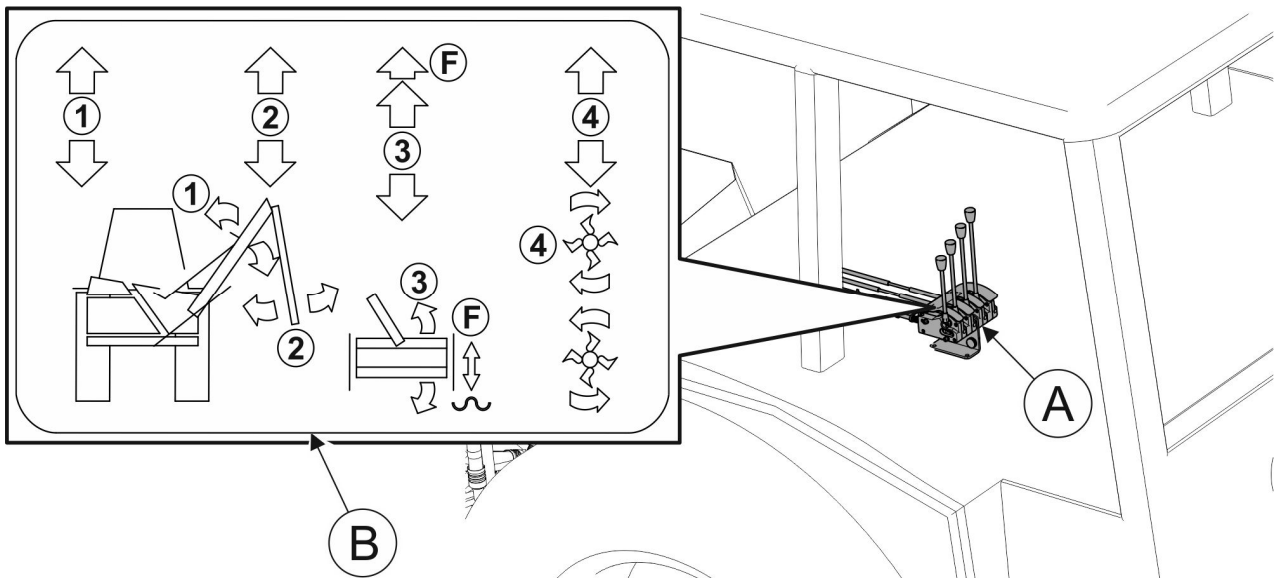

FIGURE 4.3 The controls of WWT420 / WWT480 multifunction arm in the carrier vehicle's (agricultural tractor`s) cab with a pictogram.
- Mount the controls (A) (FIGURE 4.3) of WWT420 / WWT480 multifunction arm inside the carrier vehicle's (tractor) cab in the place which makes it possible to manoeuvre the control levers freely from the seat of the carrier vehicle (tractor) operator. The controls should be mounted in a stable manner, without weakening the protective structure of the carrier vehicle (tractor).
The arms of the multifunction arm and working head are controlled by means of the controls inside the carrier vehicle (agricultural tractor) (FIGURE 4.3).
The pictogram showing the lever control diagram is located on the control panel (FIGURE 4.3). Individual functions of control lever (FIGURE 4.5):
The arms of the multifunction arm and the working head are controlled by means of the control panel with joystick inside the carrier vehicle (tractor) (FIGURE.4.3).